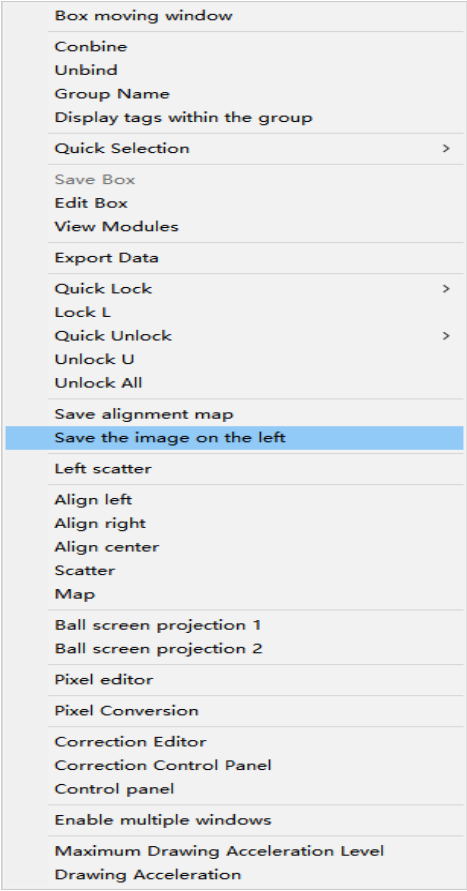

Figure 4-3-21 Left-aligned mapping-reference image
- Save the Image on the Left:** Exports the mapping reference image left-aligned with the specified number of pixels per row, as shown in Figure 4-3-21.